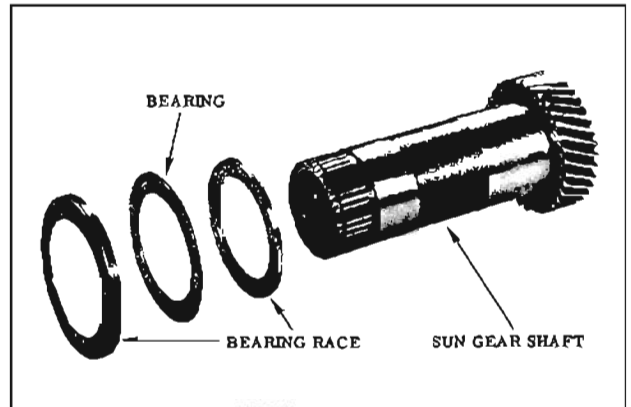

Fig. 6-44 Bearing and Races
8. Remove the front unit sun gear assembly, race, thrust bearing and race. (Fig. 6-44)